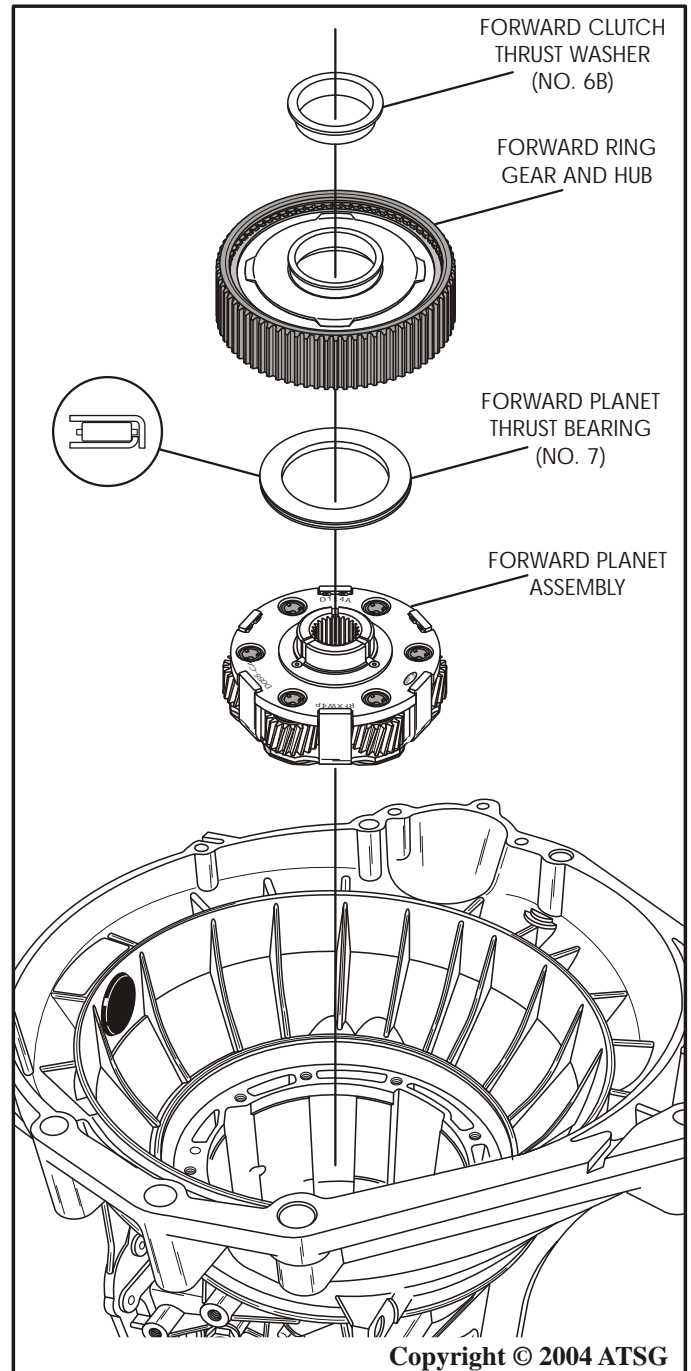

Figure 145
22. Install the forward planetary carrier with the No. 6 thrust washer, as shown in Figure 145, by rotating into position.
23. Install forward planetary carrier thrust bearing (No. 7) in the direction shown in Figure 145, and retain with small amount of Trans-Jel®.
24. Install the forward ring gear and hub, as shown in Figure 145, by rotating into position.
25. Install forward clutch thrust washer (No. 6B), as shown in Figure 145.